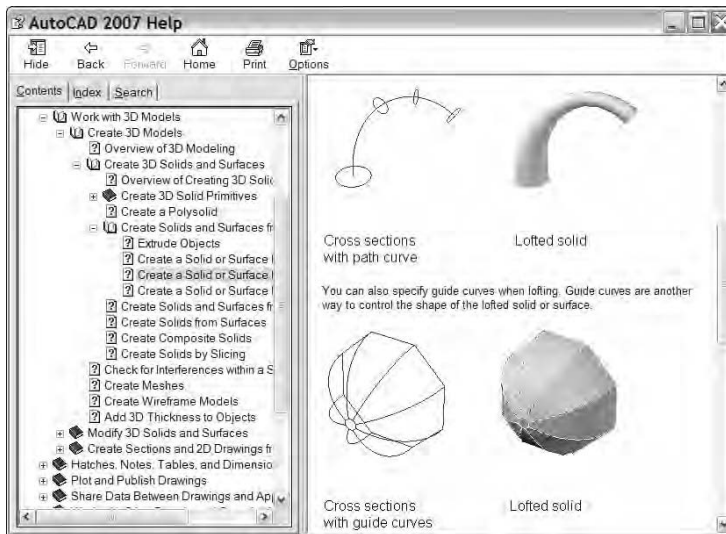

Figure 9-12:
- ✔ **Online help system:** Choose Help⇨Help, or press the F1 key. In the left pane of the Help window, expand User's Guide, and then click Work With 3D Models. Figure 9-12 shows a help section on lofts and sweeps. (We know, once upon a time this would have been in a printed manual!)